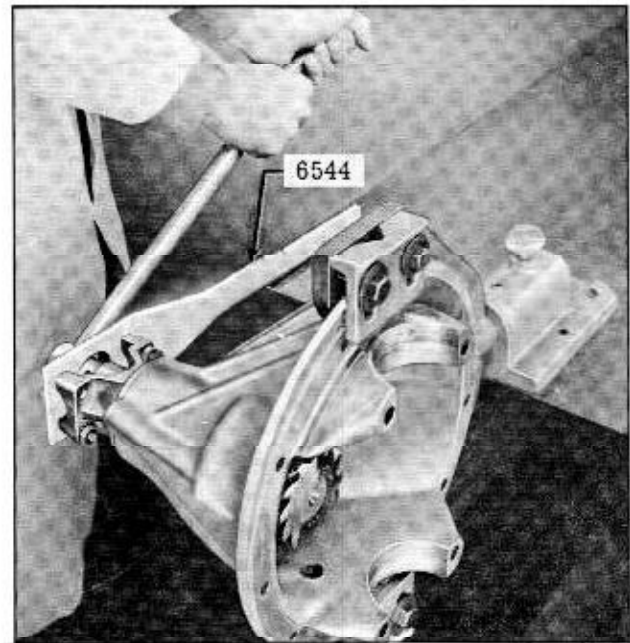

Fig. 6-21 Removing Companion Flange Nut
2. Turn the assembly to a horizontal position as shown in Fig. 6-21, then, using Tool J-6544 to hold companion flange, remove the companion flange nut using a 1-1/4" socket.